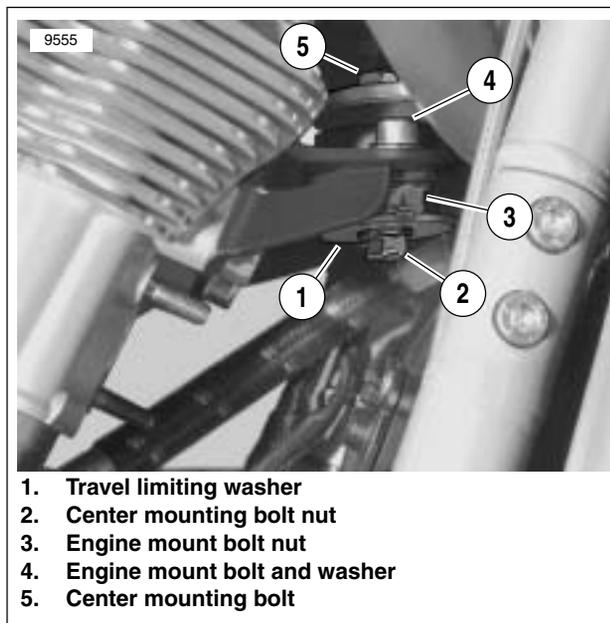

Figure 2-4. Engine Mount (exhaust removed for clarity)
6. See Figure 2-4. Loosen and remove nut (2) and travel limiting washer (1) from center mounting bolt (5).
7. Loosen and remove nuts (3) from engine mount bolts (4) (Left side requires using a 8 mm ball Allen with a 2 in. extension).
8. By lifting up the center mounting bolt (5) slightly, the engine mount pivots down and out away from the fan shroud.
9. Install **new** engine mount and left and right engine mounting bolts (4).
10. Install travel limiting washer (1) and center mounting bolt nut (2).